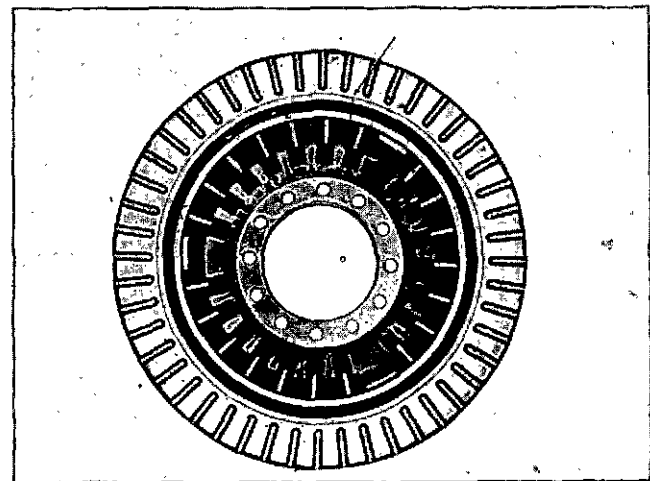

Fig. 1-6-2, V40167, Vibration damper alignment marks
2. Check for alignment of index marks on damper hub and inertia member. (Fig. 1-6-2). If out of alignment more than 1/16 inch [1.5875 mm], discard damper.